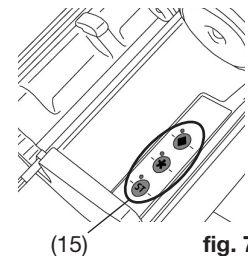

fig. 7
- Activate the mixing program by pressing the corresponding program key (15, fig 7).